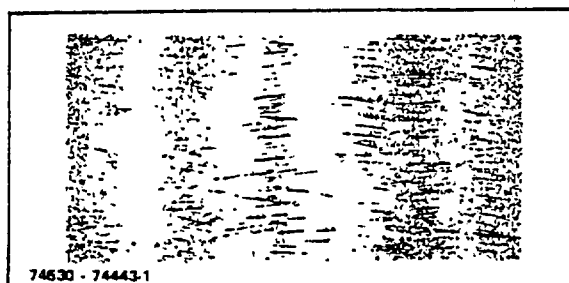

Figure 11-4. Desirable Cross Hatch Pattern After Cylinder Hone.
3. To get the correct cross hatch pattern (Figure 11-4) with a cylinder hone, use a top quality electric drill with a speed of 500 RPM or less.
3. Insert none in cylinder and expand to cylinder wall with slight tension. Using a clean brush, wet cylinder wall and stones with kerosene. Use a hand drill and surface hone cylinder with a rapid up and down motion to produce a good cross hatch pattern (Figure 11-4). Apply kerosene occasionally as needed and increase tension on hone adjustment until a good pattern and finish are obtained. A smooth finish of 10 to 15 micro Inches is desired.